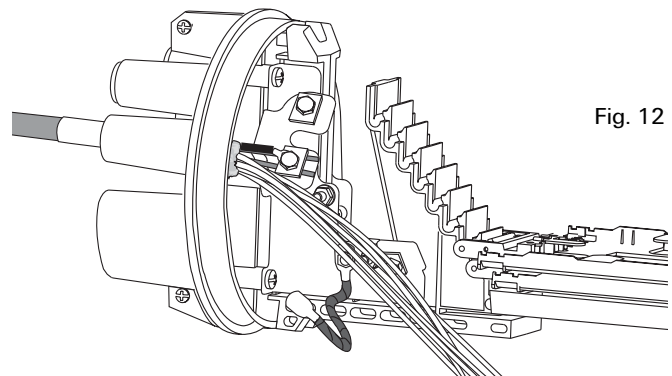

Fig. 12
2. Loosen the square washer and place the strength member(s) underneath it. Add short section of central member to other side of washer to keep level. Tighten the square washer to secure the central members against the base. (Figure 12)